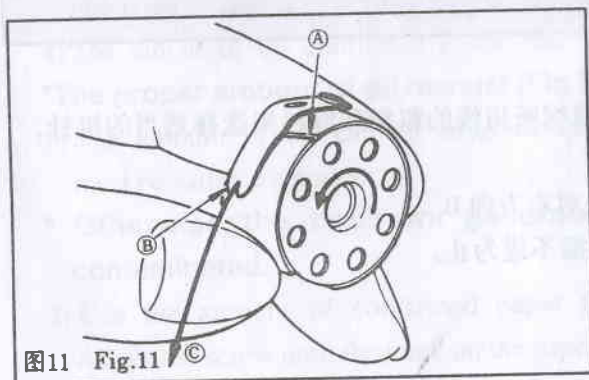

图11 Fig.11
5. 梭心的装法(图11)
5. SETTING THE BOBBIN INTO THE BOBBIN CASE(Fig.11)